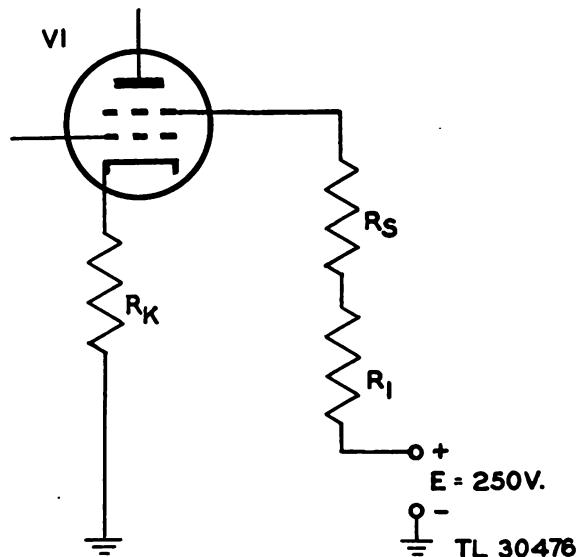

Figure 51. Voltage measurements functional schematic.
d. *Screen Grid Voltages.* Figure 51 illustrates a circuit showing the application of a screen grid circuit. Current flows between the screen and cathode elements inside  $V1$  when the potential on the screen is more positive than the potential on the cathode. This screen circuit is a simple series circuit comprising the resistor  $R_k$ , the resistance between the cathode and screen of  $V1$ , and the resistors  $R_s$  and  $R_1$ . The applied voltage is 250 volts. Voltage drops will appear around this circuit in the same manner as around a plate-cathode circuit. The chief difference will be that the current through any screen-cathode circuit is much smaller than the current through a plate-cathode circuit.